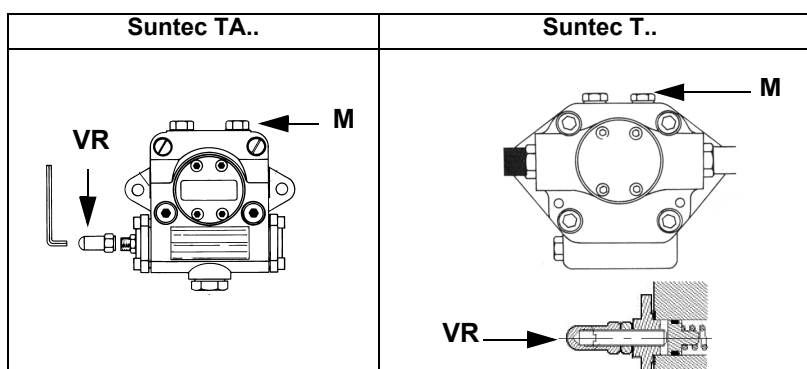
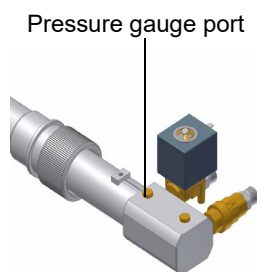

Fig. 5
Fig. 6
- 3 bleed the air from the **M** pressure gauge port (Fig. 5) by loosening the cap without removing it, then release the contactor.
the nozzle supply pressure is already factory-set and must not be changed. Only if necessary, adjust the supply pressure as follows (see related paragraph): insert a pressure gauge into the port shown on Fig. 6 and act on the pump adjusting screw **VR** (see Fig. 5) as to get the nozzle pressure at 20 or 25bar (according to the nozzle model provided - see page 43).
- 2 Remove screws 1 ÷ 4 using the Allen key n. 3 and remove filter cover 5 in Fig. 5.